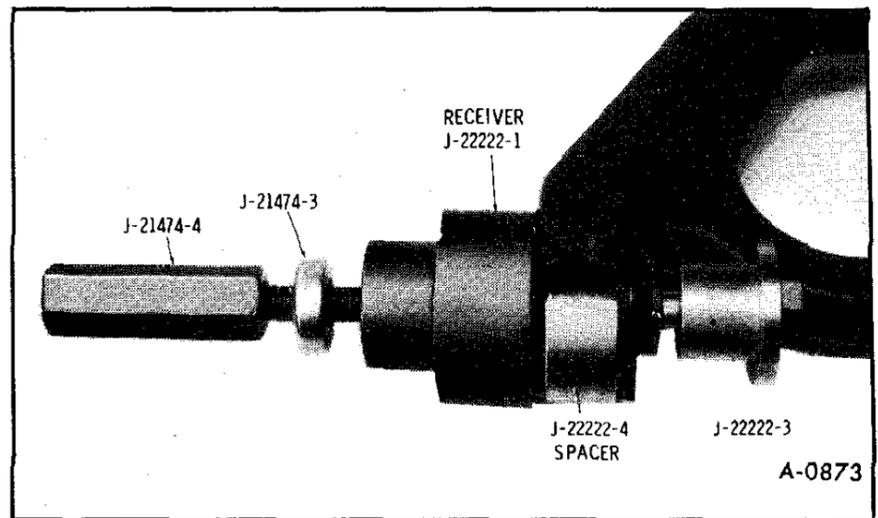

Figure 15—Removing Upper Control Arm Bushing
4. Move control arm out of frame brackets and attach bushing removal tools as shown in figure 15. Remove bushings.